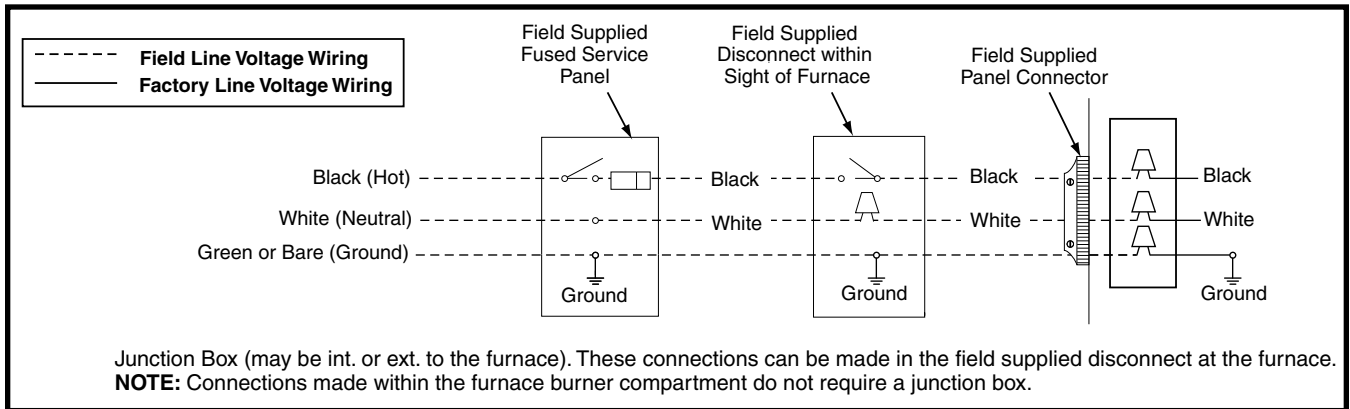
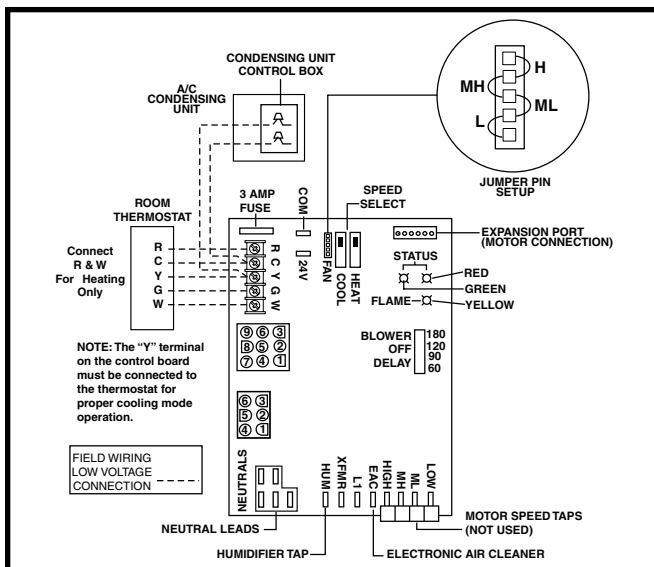

Figure 14. Line Voltage Field Wiring
Figure 15. Low Voltage Field, Four-wire Heating/Cooling Applications
- **An electrical disconnect must be installed readily accessible from and located within sight of the furnace. See Figure 14 or the wiring diagram label inside of the control door. Any other wiring methods must be acceptable to authority having jurisdiction.**
- **Proper line voltage polarity must be maintained in order for the control system to operate correctly. Verify the incoming neutral line is connected to the white wire and the incoming “hot” line is connected to the black wire. The furnace will not operate unless the polarity and ground are properly connected as shown in Figure 14.**
- The thermostat must be installed according to the instructions supplied by the thermostat manufacturer. Low voltage connections (24 VAC) from the thermostat are wired to the terminal strip on the integrated control in the furnace. Figure 15 contains the proper connections for heating only (two-wire) and heating/cooling (four-wire) applications. Recommended minimum wire gauge for thermostat wiring is shown in Table 2, \(page 18\).
- The six pin terminal marked “Expansion Port” (Figure 15) is not used in the single stage furnace as shipped from the factory. It is used for the furnace control board to communicate to a fixed speed or variable speed high efficiency motor that may be optionally installed. Please contact your distributor for the proper upgrade motor kit.
The operating sequences for the heating, cooling, and fan modes are described below. Refer to the field and furnace wiring diagrams: Figure 14, \(page 18\), Figure 15, \(page 18\) and Figure 19, \(page 24\).
- When the thermostat energizes the **G** terminal for continuous fan (without calling for heat or cooling), the indoor fan is energized on the selected FAN speed. See Figure 15, \(page 18\).